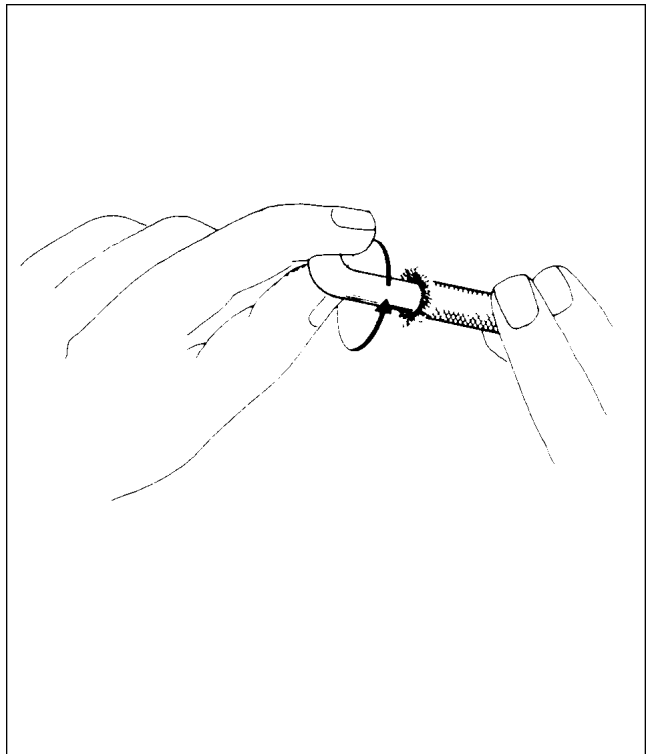

Figure 74-20. Flaring out the Shielding
- h. After installation of nut and ferrule, bend and rotate silicone insulation as per figure 74-20 to flare out shielding so drive ferrule can be inserted. Do not cut silicone insulation with sharp braiding while wire is being rotated. Refer to Figure 74-20.